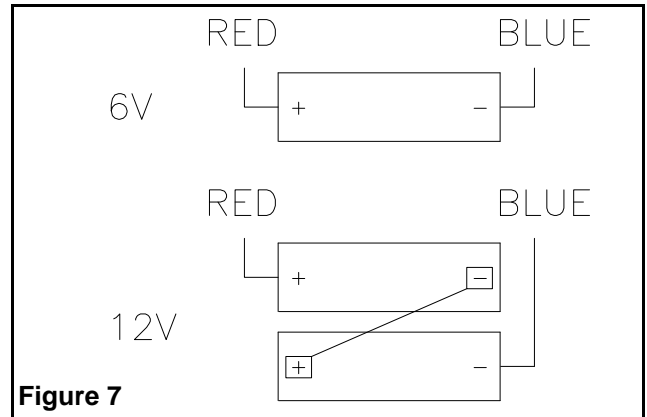

Figure 7
- a. Reinstall batteries and electronic module as shown on figure 6. See figure 7 for batteries wiring diagram.
- e. Place the battery(ies) back in place one at a time, secure each battery with a battery bracket and screws. Battery heater is placed between the battery and the backplate. See figure 7 for battery(ies) wiring diagram. Put the electronic module back in place as shown in figure 6.